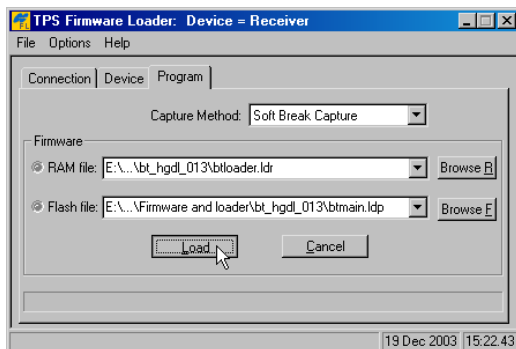

Figure 5-24. Program Tab Settings
2. Click the **Program** tab, and set the *Capture Method* to "Soft Break Capture" (recommended) (Figure 5-24 on page 5-22).
3. Browse for and select the Bluetooth module's RAM file and Flash file (Figure 5-24 on page 5-22).